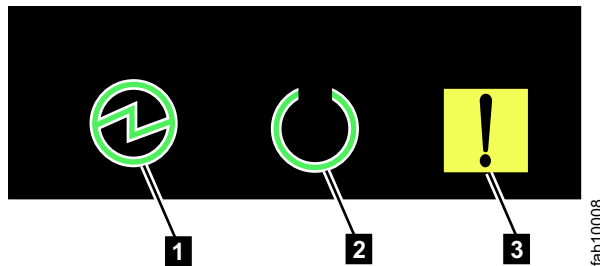

Figure 76. Power LEDs on a node canister
3. Wait for the power LEDs on all node canisters in all control enclosures to blink at 1 Hz, indicating that the shutdown operation completed, as shown in Figure 76.